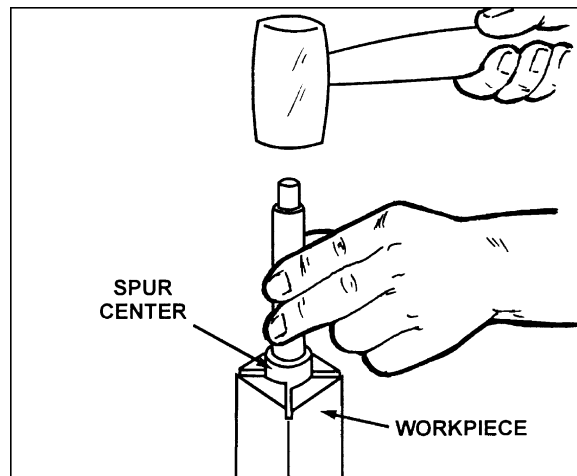

Figure 31
3. Drive the spur center about 1/4" into the workpiece, using a wood mallet or dead blow hammer as shown in Figure 31. Be careful that you do not split the workpiece. **Never use a steel face hammer and never drive the workpiece onto the spur center while it is mounted in the Lathe spindle.**